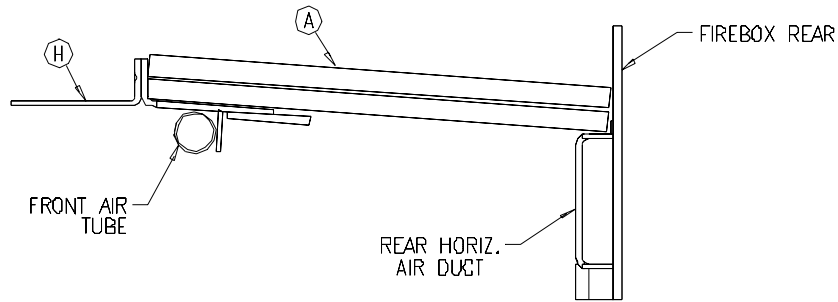

Figure 4.1a
- Starting from below and behind the front air tube, install the front baffle support / extension (H), ensuring that it fits between the front risers (see fig 4.1a).